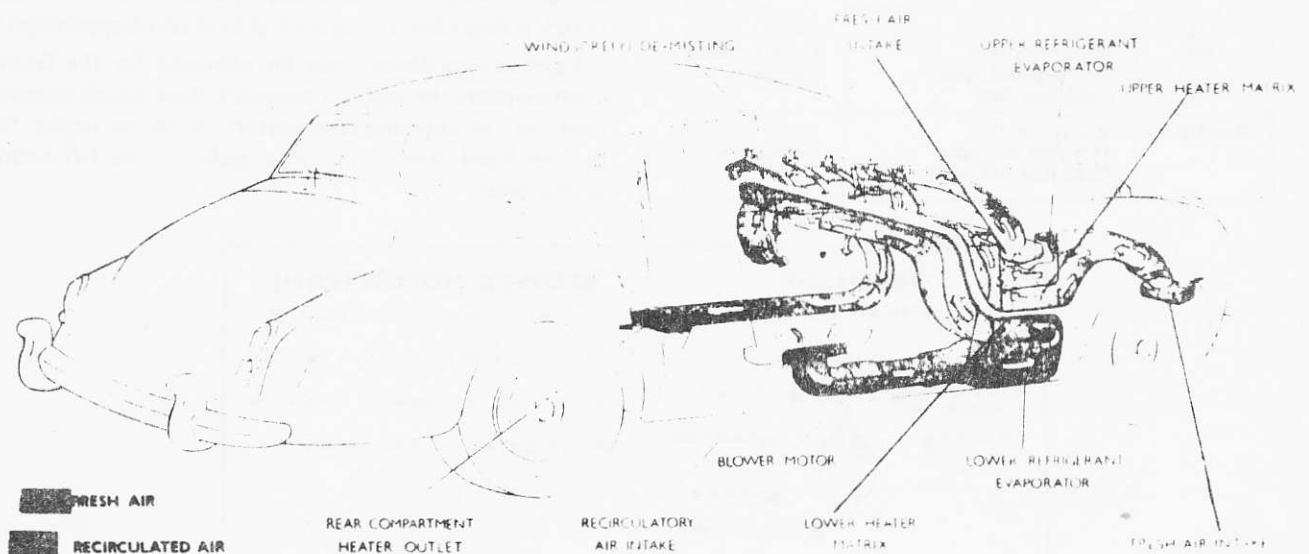

Fig. C1(S) Air circulation diagram
devoted to one system and the lower section to the other, the systems are identified as 'Upper' and 'Lower' as shown in Figure C1(S) of this Supplement.